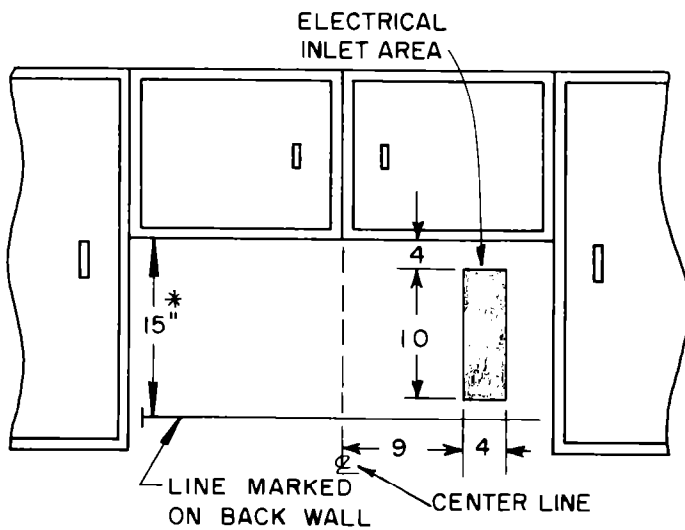
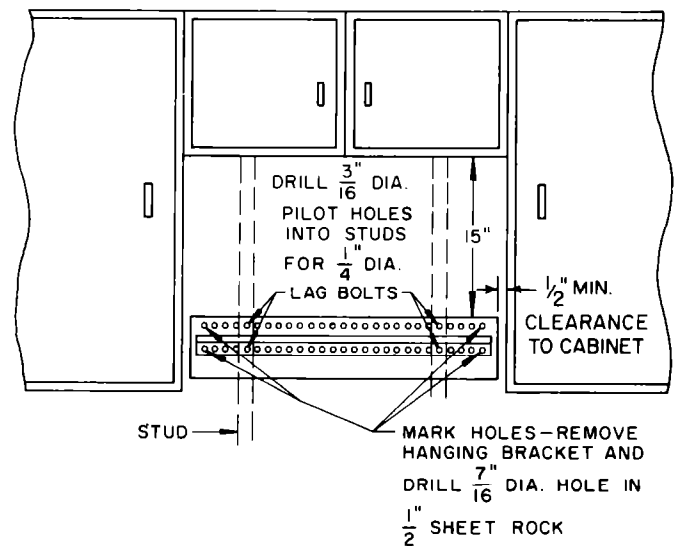

Figure 3
Figure 4
1. Select the area for installation, making sure you have an electrical supply available. See the shaded area in Figure 3. This is the area the electrical supply must enter.
3. Mark a line on the back wall 15" down from the upper cabinets 30" long centered between the side cabinets or allotted space. See Figure 3.
NOTE: If 2 studs are not located on the line drawn in Figure 3, **DO NOT** attempt to install the shelf hood.
5. Line the top of the hanging bracket up with the line drawn on the wall in Figure 3. Move the bracket to the left or right within the allotted 30" space until the center line of the 2 studs line up with 4 holes in the hanging bracket. Neither edge of the bracket should be closer than $\frac{1}{2}$ " to the side cabinets or the end of the 30" allotted space. (See Figure 4).
13. Rough wire the electrical supply to the area shown in Figure 3.